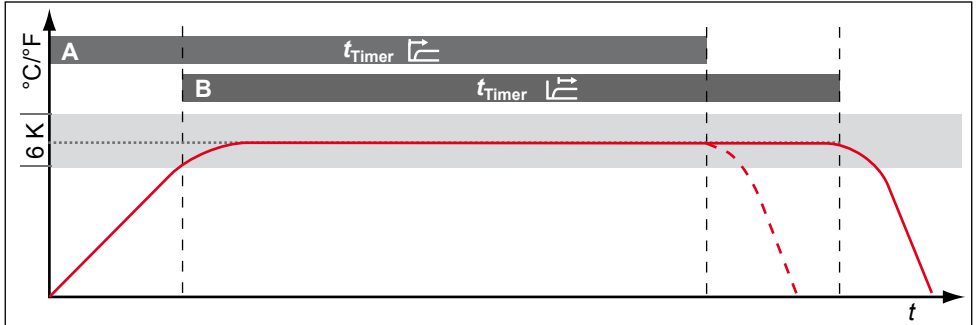

Abb. 24 Timer mode
For universal ovens UN^{PLUS}/UF^{PLUS} and incubators IN^{PLUS}/IF^{PLUS}, you can choose whether the digital backwards counter with target time setting (see page 28) should run setpoint-dependent or not – this determines if the timer should not start until a tolerance band of ± 3 K around the set temperature is reached (Abb. 24, B) or if it should start right after activation (A).